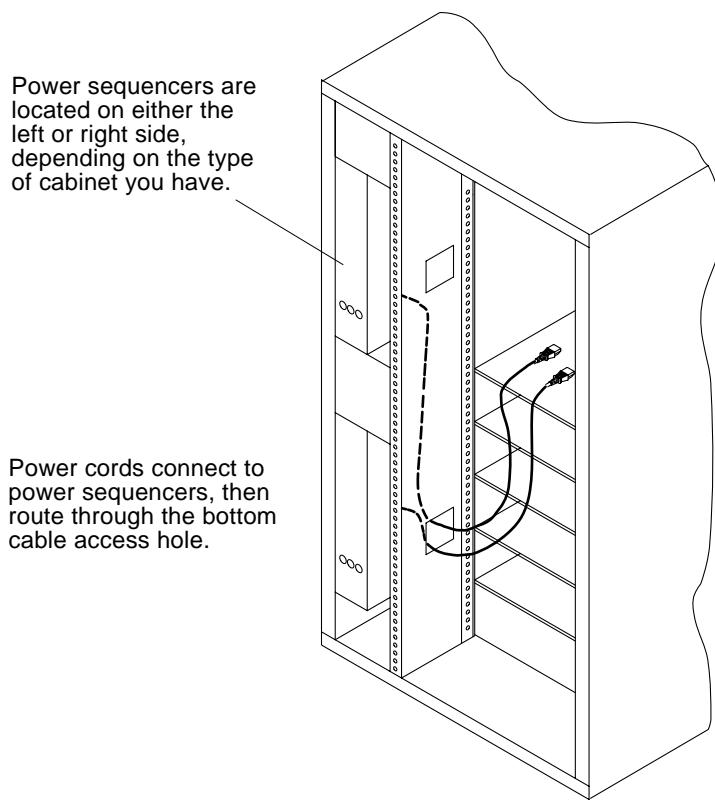

FIGURE 1-6 Routing the Power Cords
3. **Route the other end of the power cords through the cable access hole in the support structure (FIGURE 1-6).**